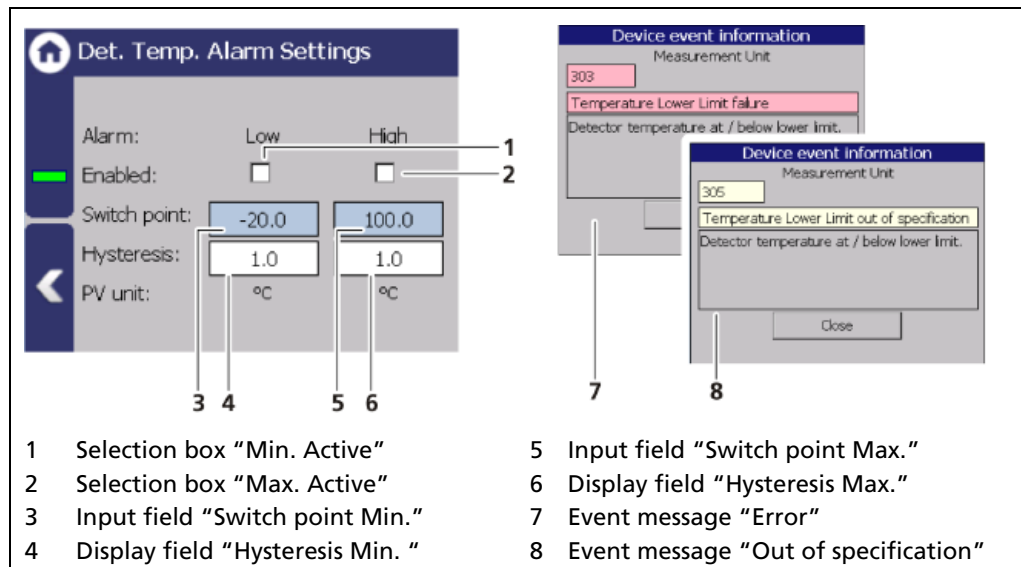

Fig. 114 Det.-Temp Alarm Settings
1. Activate the check box (Fig. 114, item 1).
2. Click on the input field (Fig. 114, item 2) to enter a switching point.
1. Activate the check box (Fig. 114, item 3).
2. Click on the input field (Fig. 114, item 4) to enter a switching point.